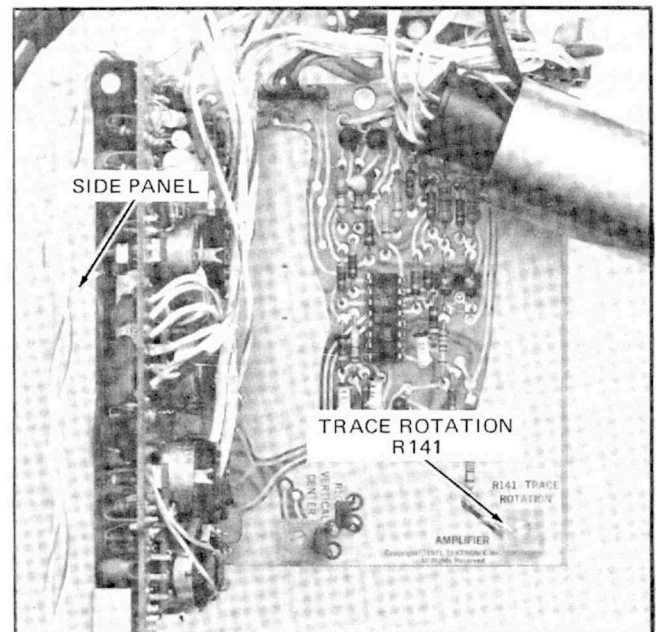

Fig. 4-3. Location of Trace Rotation adjustment.
d. ADJUST—Trace Rotation adjustment, R141 (see Fig. 4-3) to align the sweep with the center horizontal graticule line.